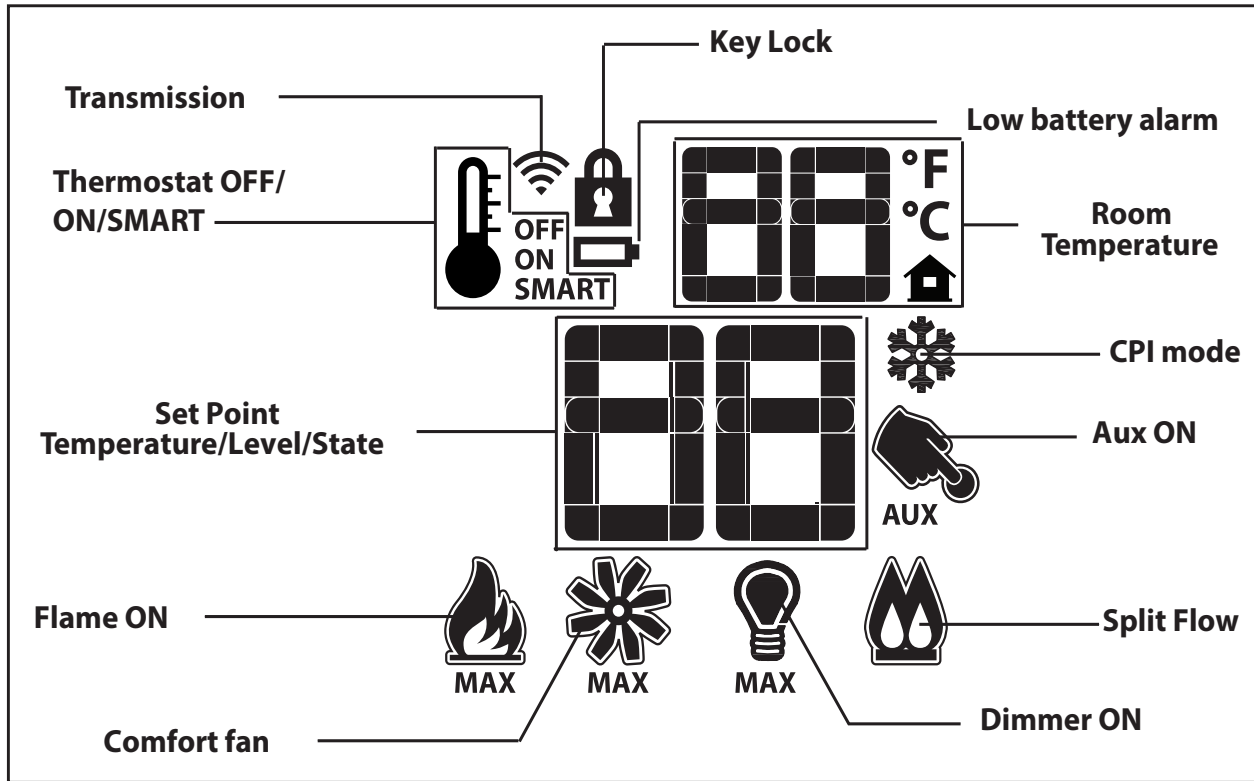

Figure 5: Proflame 2 Transmitter LCD Screen.
The Proflame 2 Transmitter is a black remote control with a blue backlit lcd display. It uses a streamline design with a simple button layout and informative lcd readout (Figure 5). The Transmitter is powered by three (3) AAA type batteries. A Mode Key is provided to Index between the features and a Thermostat Key is used to turn on/off or index through Thermostat functions (Figure 4 & Figure 5)